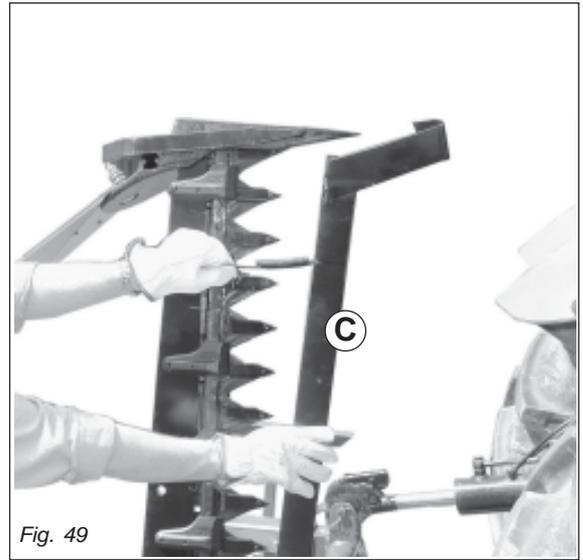

Fig. 49
- Fit the guards over the cutters and outer skid (C Fig. 49)